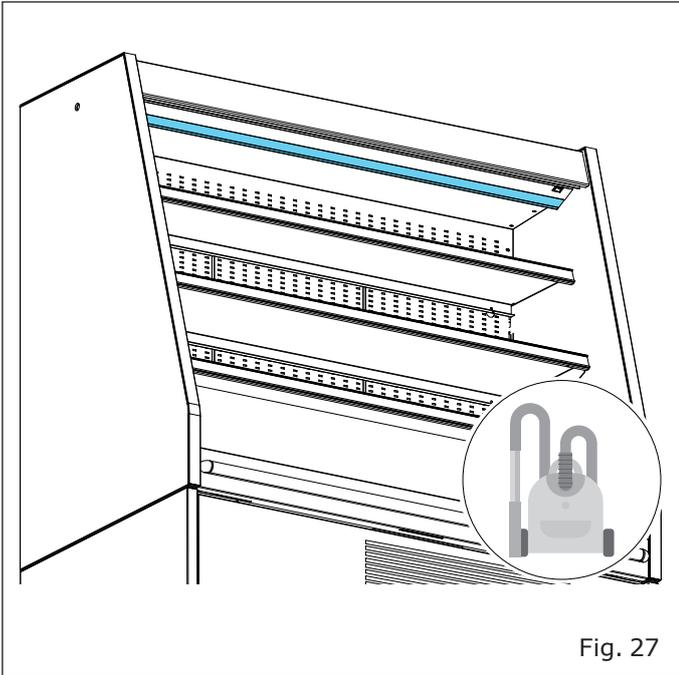

Fig. 27
- Clean the honeycomb using a vacuum cleaner ("Fig. 27").